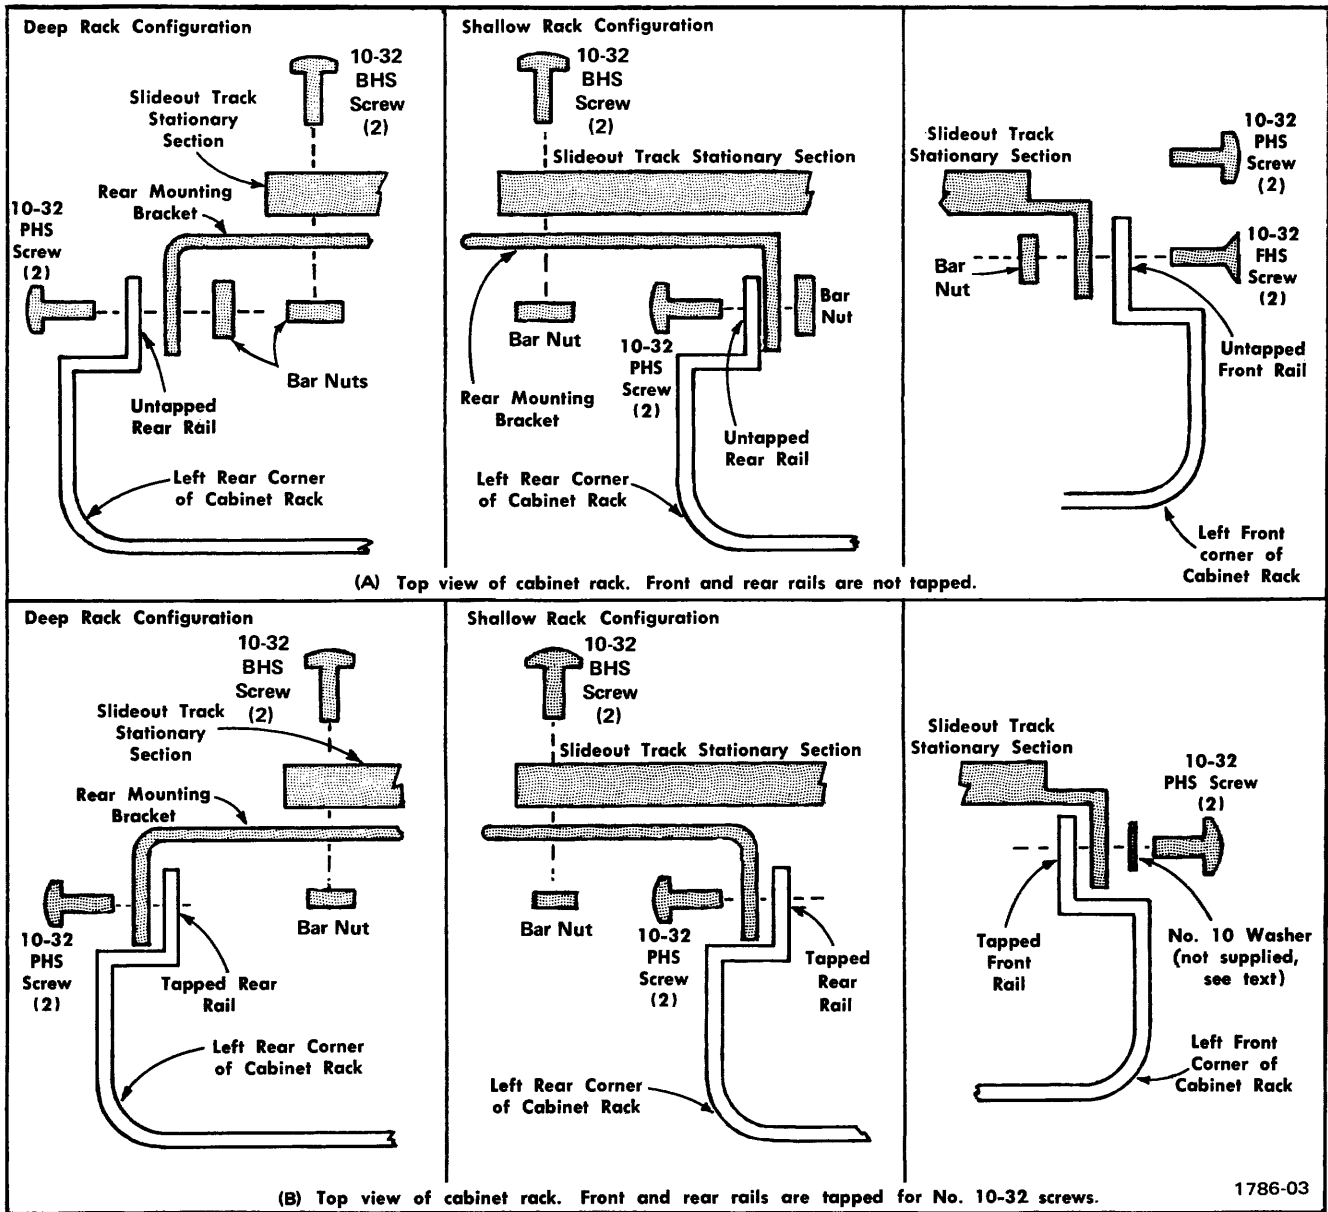

Fig. 2-2. Mounting the left stationary section (with its matched intermediate section, not shown in illustrations A and B) to the rack rails.
**Mounting Procedure.** Use the following procedure to mount both sides. See Fig. 2-2 for installation details.